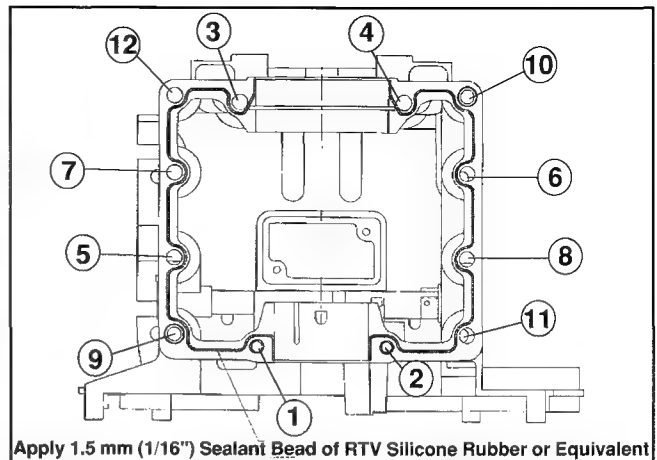

Figure 11-13. Crankcase Sealant Pattern and Fastener Torque Sequence.
3. Apply a 1.5 mm (1/16") bead of silicone sealant to the surface of the lower crankcase half in pattern shown in Figure 11-13.
5. Loosely install the crankcase fasteners in proper position but do not tighten. The two 70 mm long go in positions marked 1 and 2; the two 115 mm long go into positions marked 3 and 4 on the PTO side; and the eight 40 mm long go into the remaining side holes. See Figure 11-13.
7. Torque all crankcase retaining fasteners to **24.4 N·m (216 in. lbs.)** in the sequence shown in Figure 11-13.